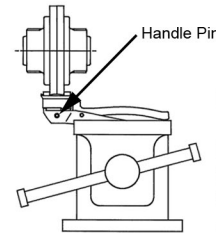

Figure 2.
1. Secure the valve in a soft jaw vice and remove the handle or actuator as depicted below, see figures 2, 3 & 4 as applicable for your valve.